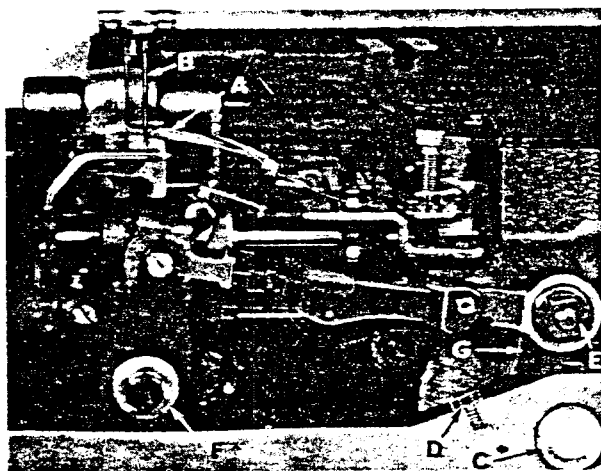

Fig. 5
Insert the looper in the looper rocker and turn handwheel in operating direction until the point of the looper (A, Fig. 5), moving to the left is even with the left side of right needle (B). Note the height of the eye of the needle with respect to the looper point, then turn handwheel in the reverse direction until the looper point again moves to the left, and is even with the left side of the right needle. If the motions synchronize, the height of the eye of the needle with respect to the looper point will be the same. A variation of .005 inch is allowable. If the distance from the eye of the needle to the point of the looper is greatest when the pulley is turned in the operating direction, move the looper drive shaft synchronizing stud (C) to the rear. Moving it in the opposite direction acts the reverse.
Moving of the looper drive lever shaft synchronizing stud is accomplished as follows: Loosen the clamp screw (D, Fig. 5) of the looper drive lever. To move stud to rear (away from operator), a light tap with a small hammer, directly on the stud, is all that is required. To move stud forward (toward operator), remove the cloth plate, throat plate support, oil reservoir top cover and oil reservoir back cover, then, a light tap on the looper drive lever rocker shaft, toward the operator, is all that is required. Then, using the looper drive lever to take up the end play between the looper drive lever rocker shaft and its synchronizing stud, tighten the looper drive lever on the shaft, using screw (D, Fig. 5).
With the looper at the extreme right end of its travel, check the location of the center line of the right looper connecting rod bearing, using gauge No. 21227 CX. Remove nut (E, Fig. 5) and place hole in gauge over threaded stud. The left end of the gauge should locate against the right side of the looper rocker cone (F). If adjustment is necessary, loosen the clamp screw (D) and reposition the looper drive lever (G) as required. Tighten clamp screw. If gauge is not available setting can be checked with a scale. The distance between the center line of the looper rocker cone and the center line of the looper lever stud should be $4 \frac{1}{16}$ inch (Fig. 6).